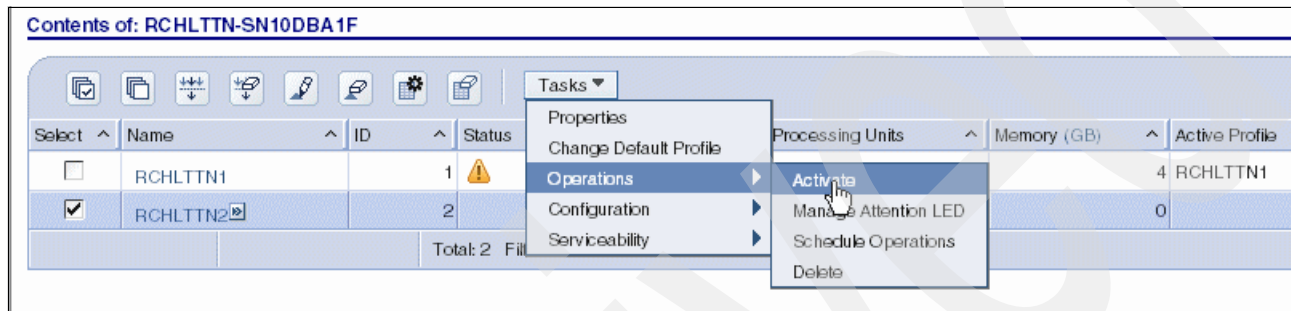

Figure 5-9 Activating a partition
1. Insert the I\_BASE SLIC CD into the alternate IPL DVD-ROM device and perform a D-mode IPL by selecting the partition and choosing **Tasks** → **Operations** → **Activate** as shown in Figure 5-9.